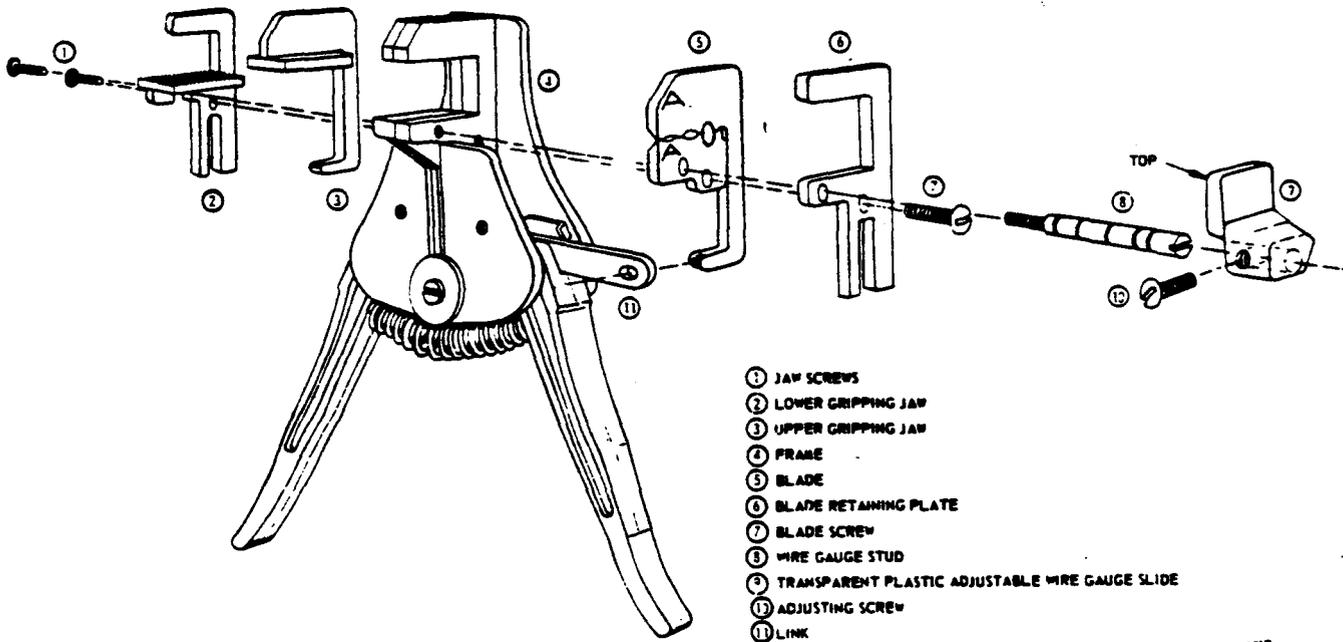

FIG. 8 PRINCIPAL PARTS AND ASSEMBLY SEQUENCE FOR R-3457
4.915 The wire gauge stud shown in Figure 8 has been marked at 1/4" intervals for measuring the proper shiner length when performing the skinning operation. The first mark appears at the 1/8" point, but because of the thickness of the blade retaining plate, this mark measures approximately 1/4" from the face of the blade. The 1" mark and the last mark are heavier than the others. The last mark on the stud measures 1-1/8" from the blade face.
4.916 The transparent plastic adjustable wire gauge slide and adjusting screw shown in Figure 8 slides along the wire gauge stud and may be placed at the appropriate mark for measuring the desired shiner length.
4.92 For removing and inserting blades, follow the sequence shown in Figure 8.